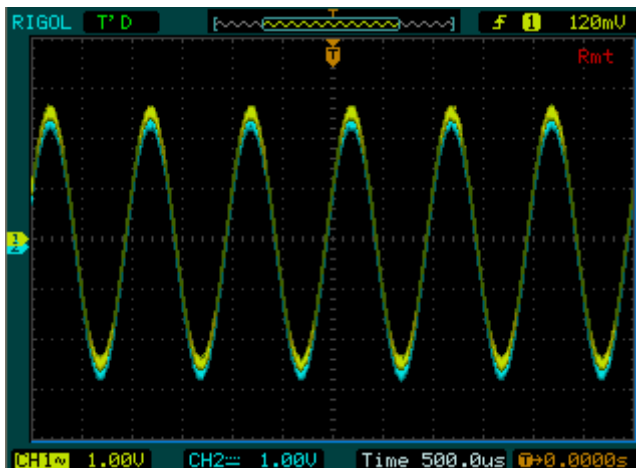
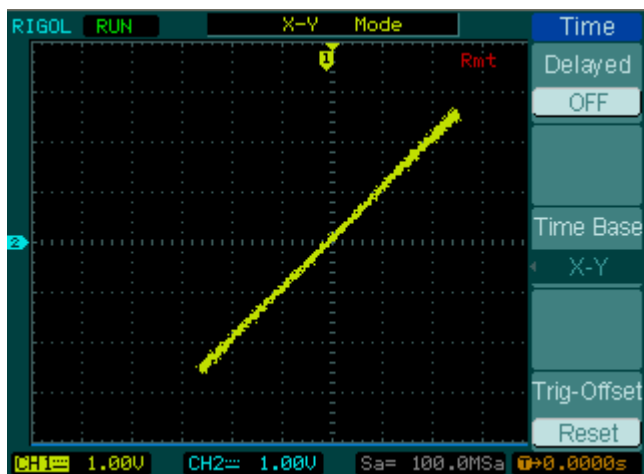

Figure 3-14
Figure 3-15
3. Press **AlignPha** in the above figure, adjust the Oscilloscope, using the Y-T and X-Y (Lissajous Figure) modes to view the waveform output. See Figure 3-14 and Figure 3-15.